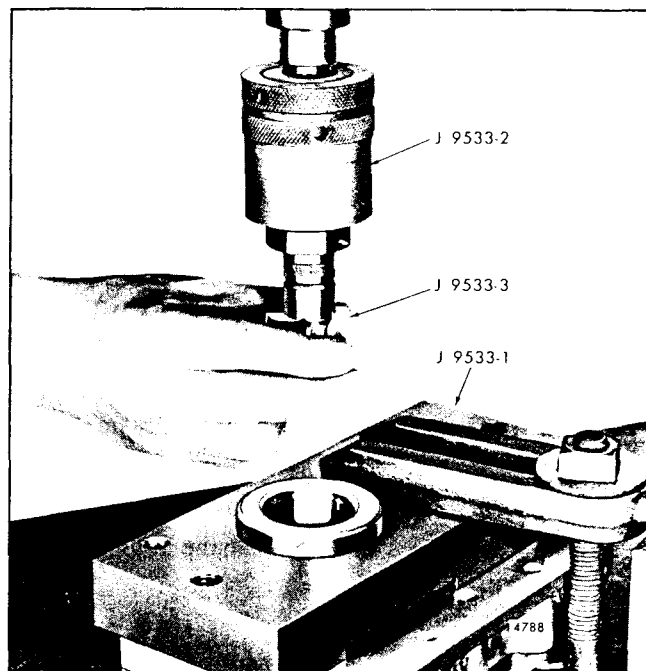

Fig. 2 - Install Cutting Tool in Holder
4. Install tool holder J 9533-2 in the drill press and insert the rough cutting tool J 9533-3 in the holder (Fig. 2).